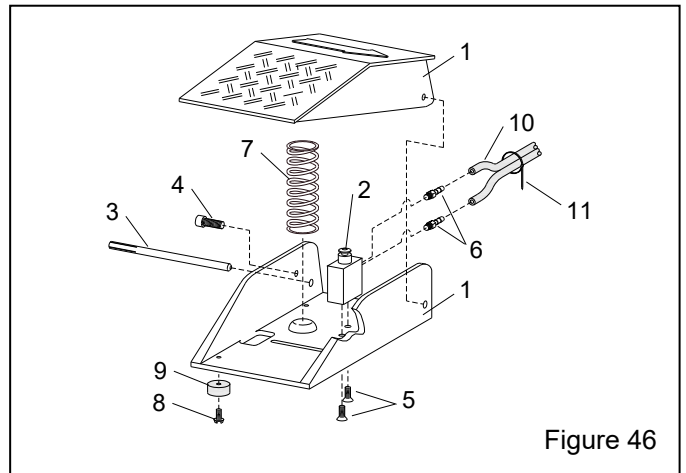

Figure 46
**9.5 Foot-Pedal Assembly – Figure 46**